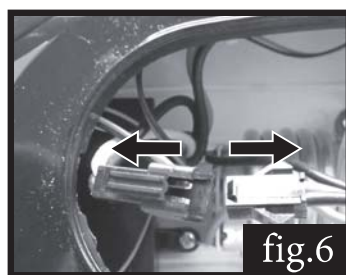

fig.6
6.Disconnect the wire connector for motor and cabin, then take the motor seat out, fig.6.